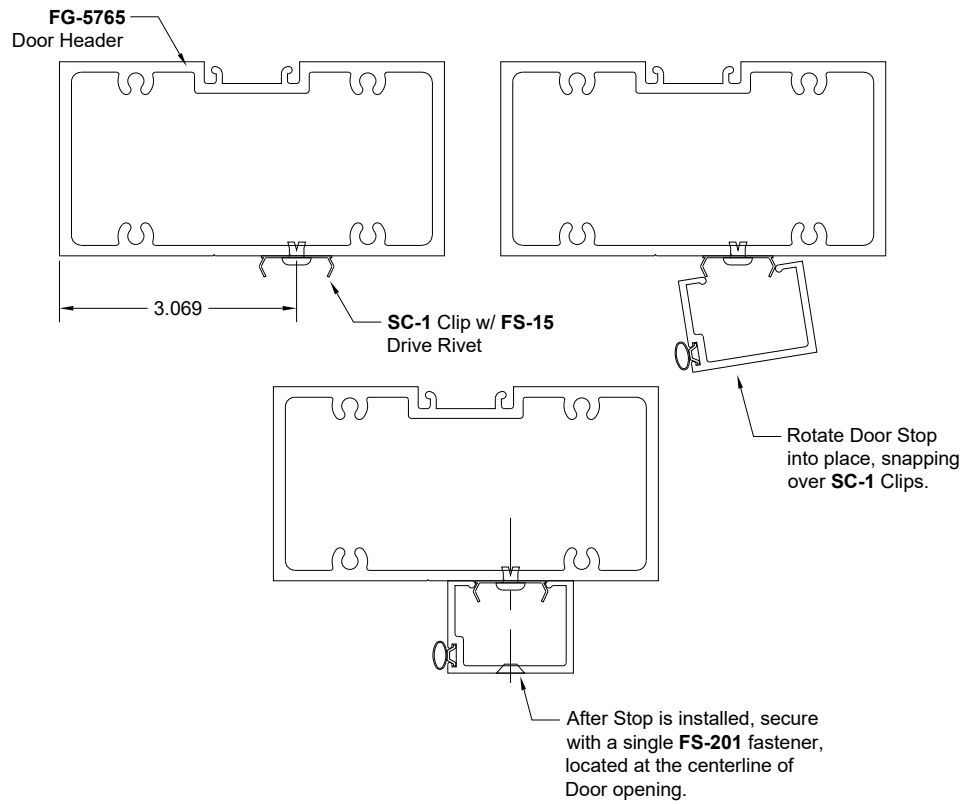

Figure 18: Installing Screw Applied Door Stop for Concealed Closer Door Header
- 9.2.3 For pairs of Doors, secure **DS-104** Door Stop with a single **FS-201** fastener at the centerline of Door opening. Reference *Figure 18*.